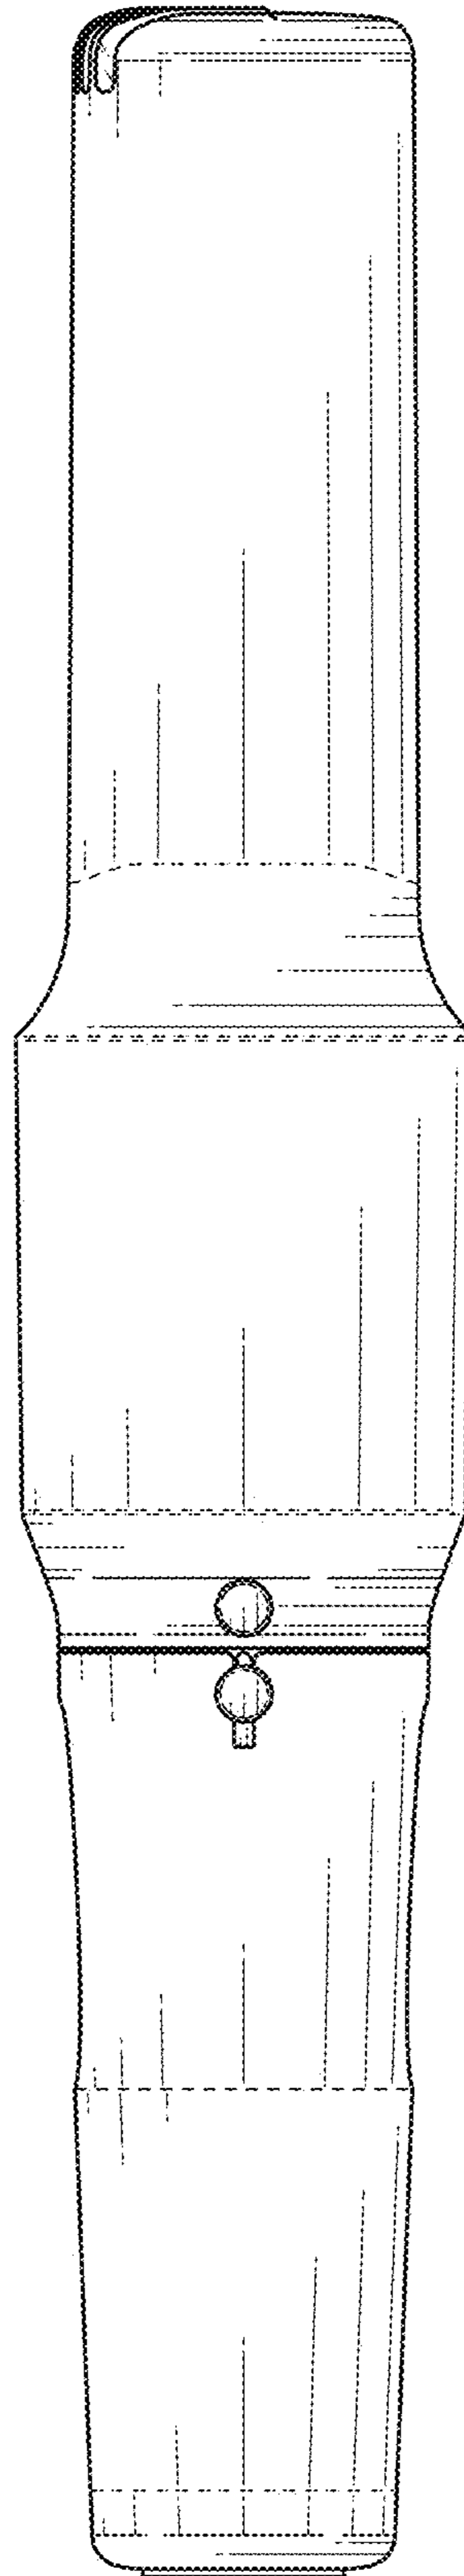

FIG. 4
- FIG. 4 is a right side elevation thereof;